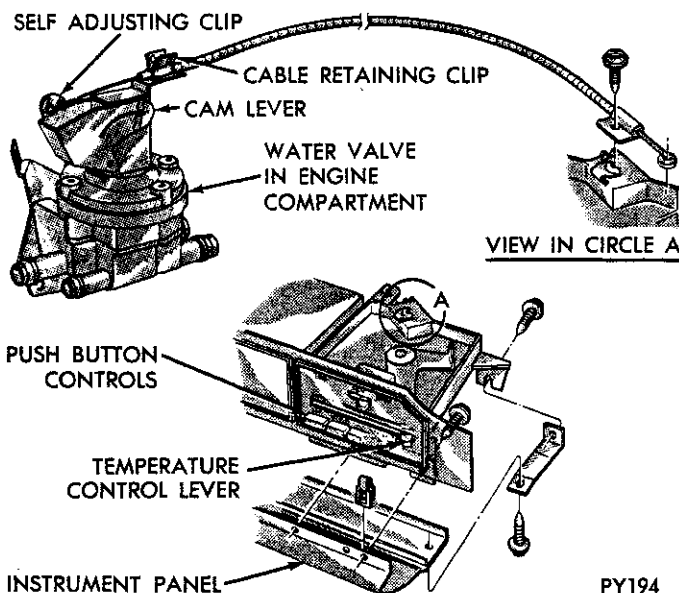

Fig. 5—Water Temperature Control Valve
(1) Place the temperature control lever, on the instrument panel, in the center position.
(2) Position self adjusting clip on cam lever pin and place cam lever on water valve, in full heat position. Snap cable housing into retaining clip and cable into self adjusting clip. (Fig 5).
(3) Move the temperature control lever on instrument panel to the full heat position to adjust the control.